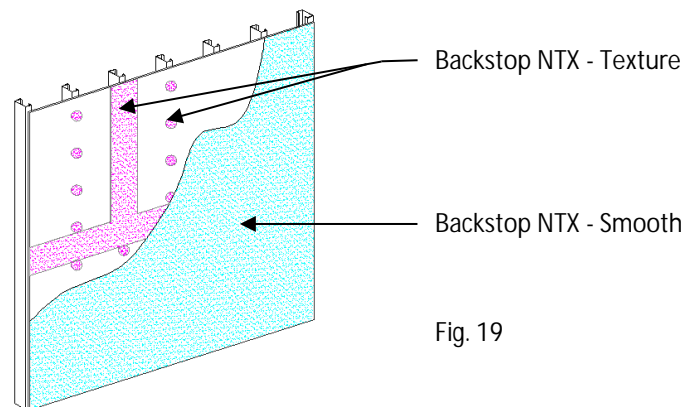

Fig. 19
- 2) Backstop NTX - Smooth material should be applied in a uniform, continuous film at the recommended coverage rate Figure 19. NOTE: Sheathing substrates with a surface texture or high porosity will require additional material.